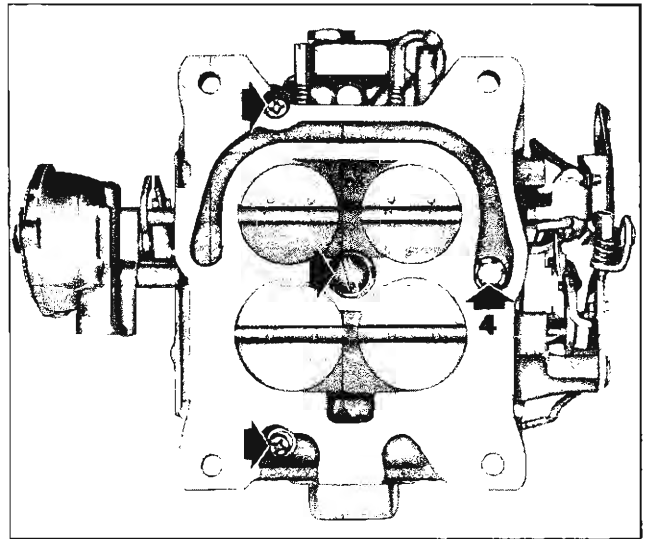

Fig. 60—Throttle Flange Screw Location
Throttle Body Removal and Disassembly (figs. 60 and 61)
4. Place throttle body assembly on bowl and start 3 cross head attaching screws and lockwashers through gasket into bowl, Figure 60.